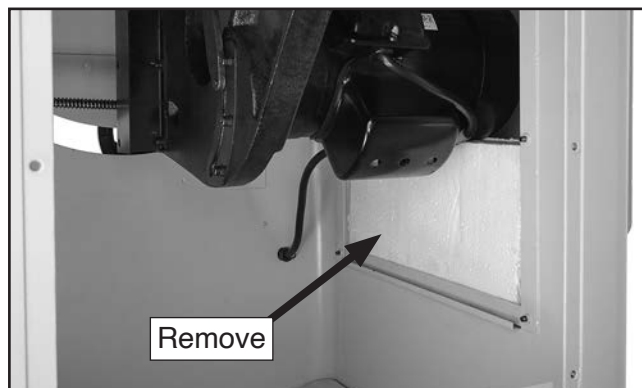

Figure 25. Location of styrofoam block to be removed.
16. Raise motor slightly using blade height handwheel and remove styrofoam block that supports motor during shipping (see **Figure 25**).